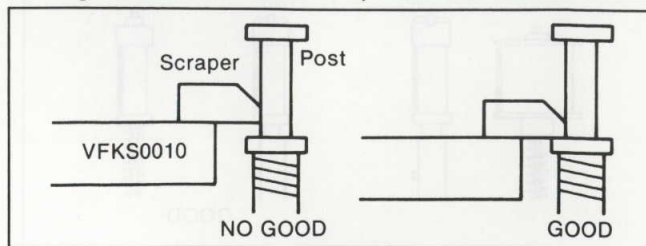

Figure M5
6. Place the side of the scraper against the each post as shown in Figure M5, then slowly raise the post until the reading of the Reel Table Height Gauge becomes the Post Adjustment Plate's height.